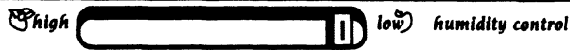

Figure 61
- a. For leafy vegetables such as lettuce, spinach or cabbage, slide control to HIGH humidity setting. See Figure 61.
- b. For fresh produce with skins such as apples, oranges or tomatoes, slide control to LOW humidity setting. See Figure 61.